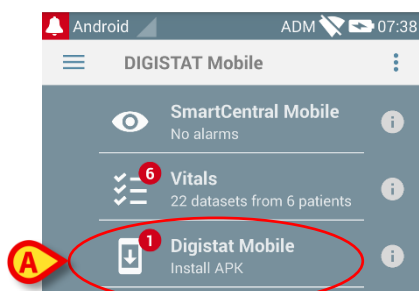

Fig 9
- Touch the row indicated in Fig 9 **A**.